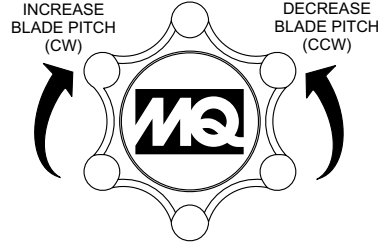

Figure 10. Blade Pitch Star Wheel (Standard Handle)
- For **Standard Handle** models expose the pitch cable to maximum by turning the blade pitch star wheel (Figure 10) fully counterclockwise for no pitch (blades flat).